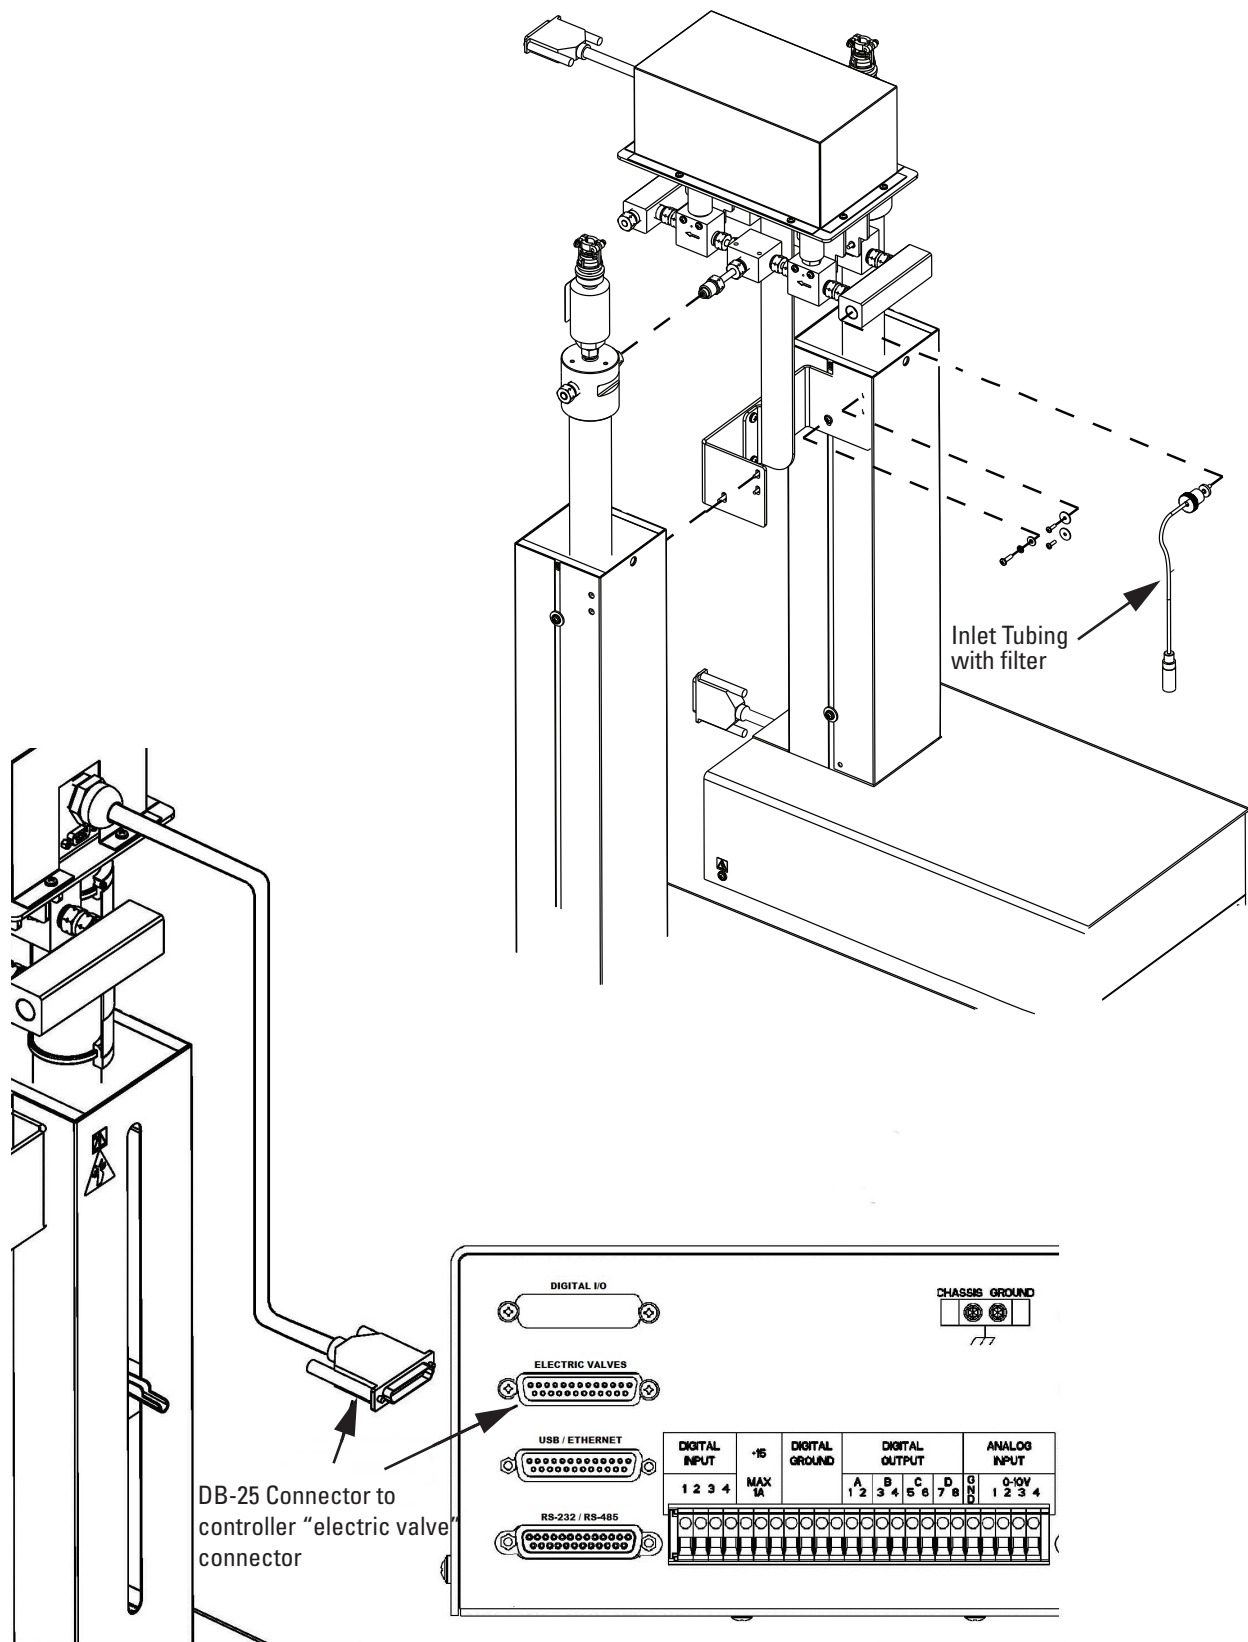

Figure B-2 Electric valve installation
To install the electric valve package (refer to Figure B-2 on the following page):
7. Connect the DB-25 cable to the controller rear panel “electric valves” connector (Figure B-2).